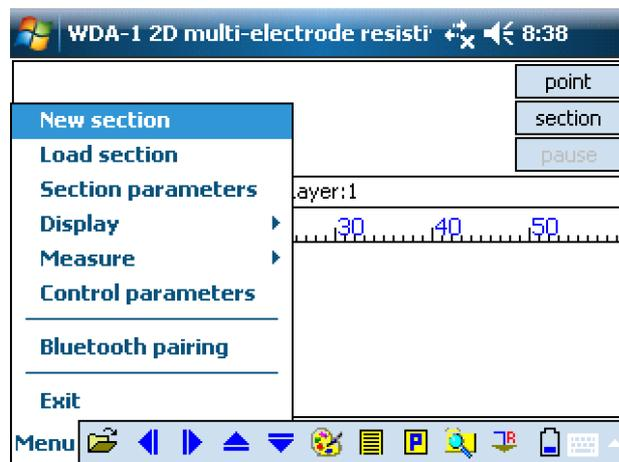
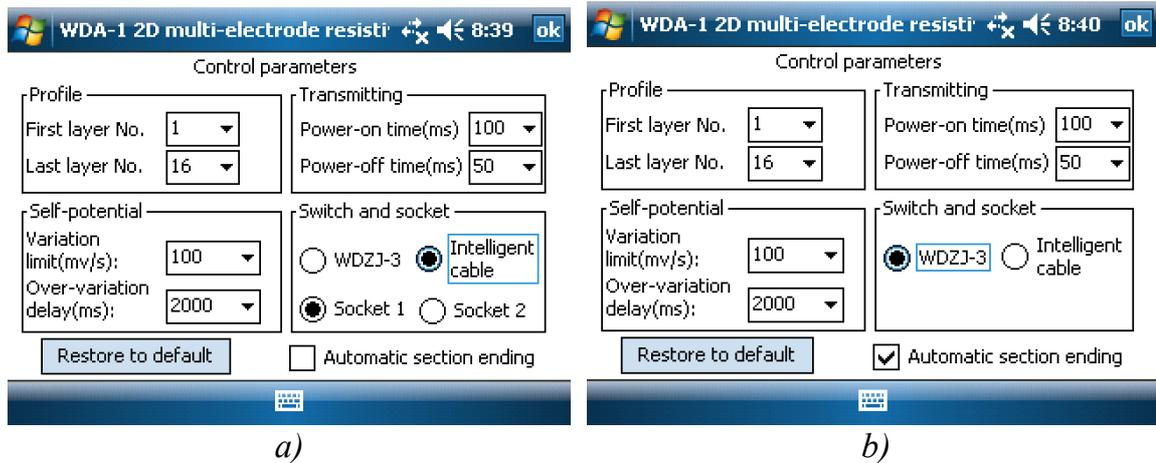

Fig. 6-10
Fig. 6-11
**Only the 15 electrode array configurations are available when WDA-1/WDA-1A works with WDZJ-3, the last option of cross-hole dipole array is excluded. In other words, if you choose Cross-hole Dipole array (CR-DIPOLE) as the electrode array of a newly created section, then system automatically choose “Intelligent cable” and “Socket 1” and “Socket 2” as the cable and switches (Fig. 6-11).**
As shown in Fig 6-10, click the corresponding shortcut icon at the bottom of screen or click “Menu”→“Control Parameter”, and the Control parameter setting interface pops up (Fig. 6-11 a). If the currently chosen option is “Intelligent cable”, choose WDZJ-3 (Fig. 6-11 b).